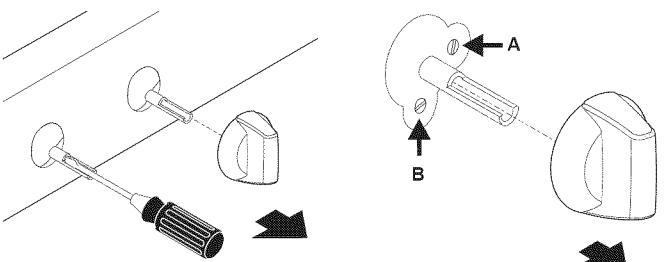

Fig. 17
- e. Insert a thin-bladed screwdriver into the hollow valve stem and engage the slotted screw inside. Flame size can be increased or decreased with the turn of the screw. Turn counterclockwise to increase flame size. Turn clockwise to decrease flame size. (See Figs. 17 & 19).